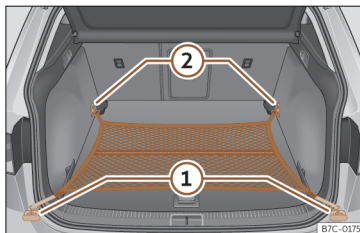

Fig. 113 In the luggage compartment: net bag hooked up at floor level.
- Secure the net hooks to the fastening rings ① and ②»» **Fig. 113** »» ⚠. The bag zip should be facing upwards.